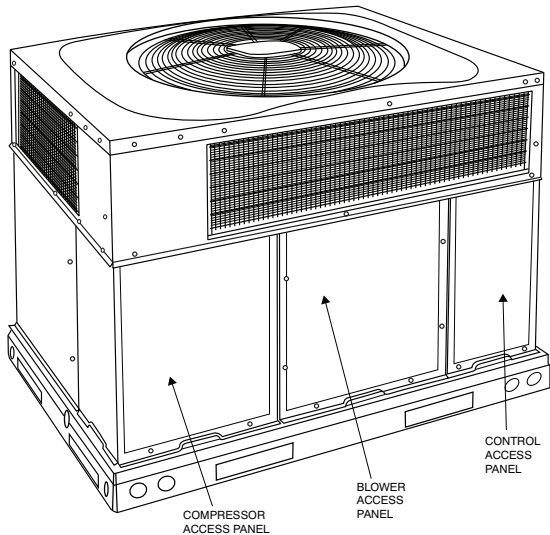

Fig. 21 – Unit Access Panels
- a. Remove blower access panel (see Fig. 21).
- g. Reinstall blower access panel (see Fig. 21).
1. Remove control access panel (See Fig. 21).
Remove blower access panel (see Fig. 21). Limit switch is located on the fan partition.
Remove access panels (see Fig. 21) to locate all the electrical controls and wiring. Check all electrical connections for tightness. Tighten all screw connections. If any smoky or burned connections are noticed, disassemble the connection, clean all the parts, re-strip the wire end and reassemble the connection properly and securely.